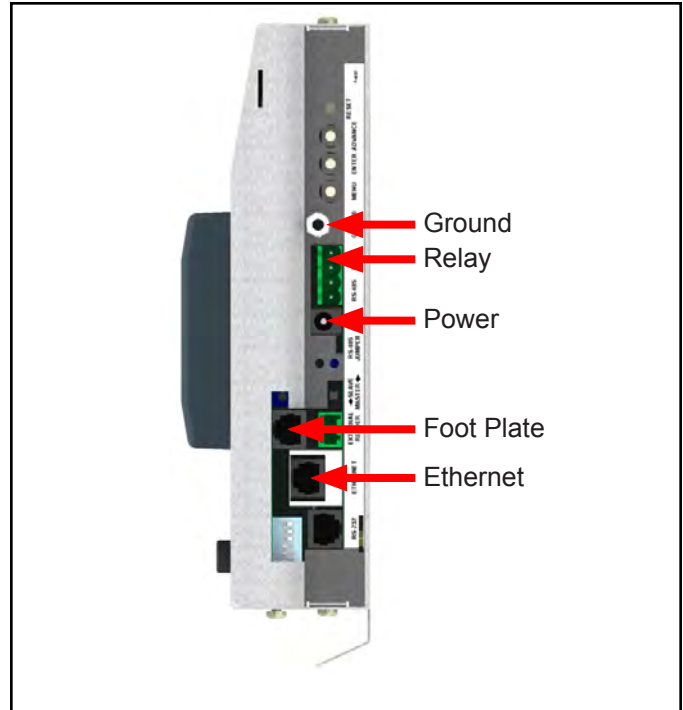

Figure 3. Connections to the SmartLog V5™ (right view, cover off)
5. Follow Figure 3 and connect all of the cables to the SmartLog V5™.